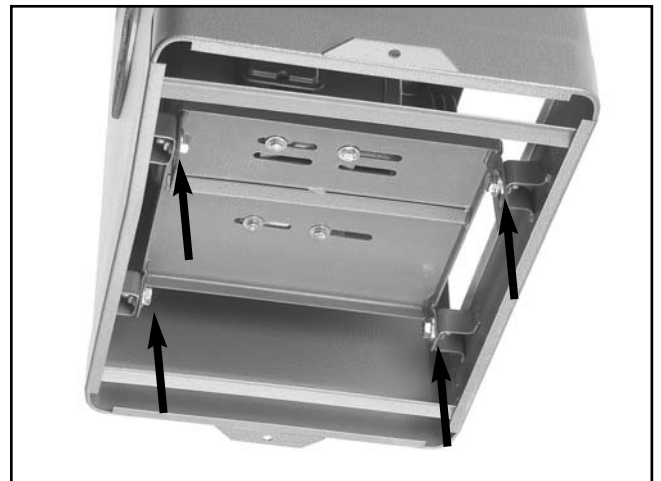

Figure 60. Motor adjustment bolts (shown underneath stand for clarity).
3. Loosen the motor adjustment bolts shown in **Figure 60**.